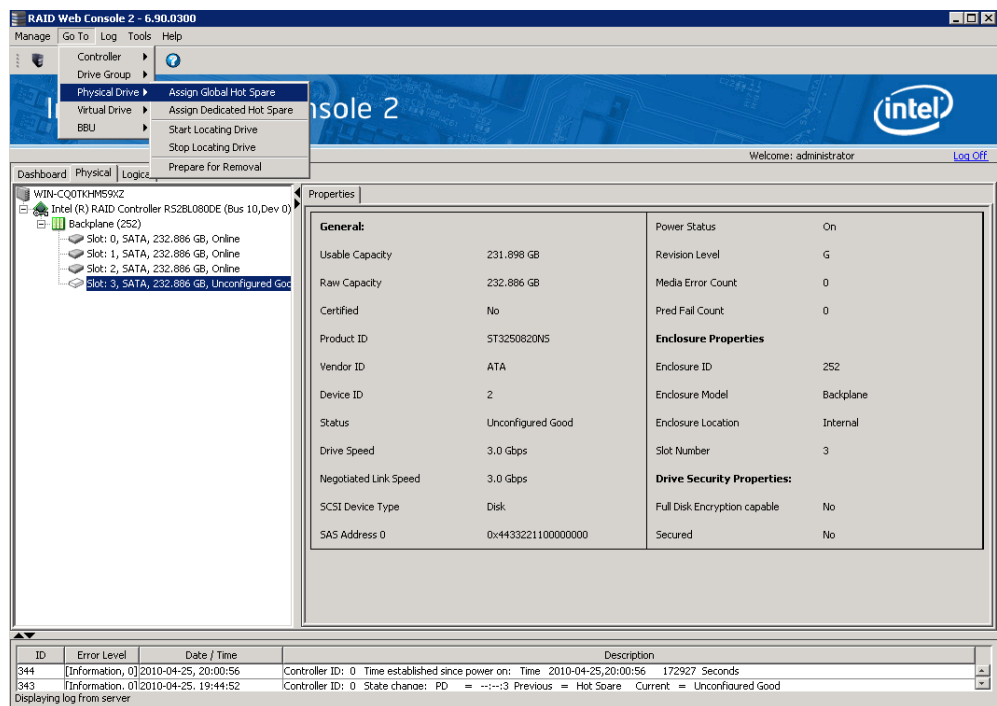

Figure 64. Assign Global Hotspare
2. In the Menu, click the **Go To -> Physical Drive** tab and select **Assign Global Hot Spare**, as shown in Figure 64.